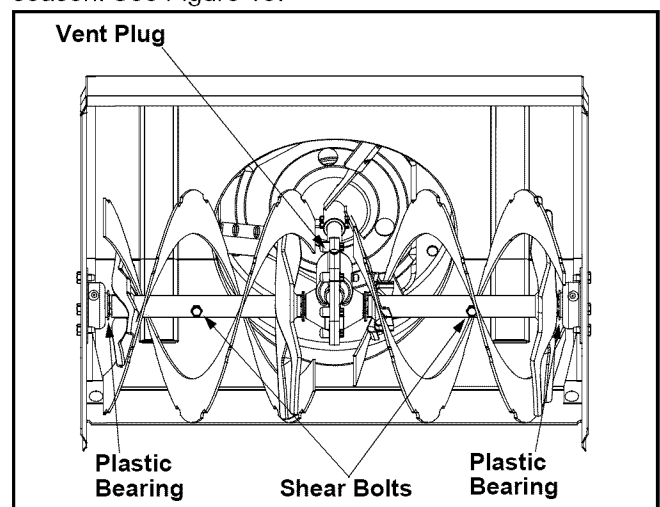

Figure 13
IMPORTANT: Do not overfill the gear case, since damage to the seals could result. Be sure the vent plug is free of grease in order to relieve pressure. See Figure 13.
At least once a season, remove the shear bolts on the auger shaft. Spray lubricant inside the shaft and lubricate the plastic auger bearings at least once a season. See Figure 13.
- The augers are secured to the spiral shaft with two shear bolts and hex lock nuts. If you hit a hard foreign object or ice jam, the snow thrower is designed so that the bolts may shear. Refer to Figure 13.